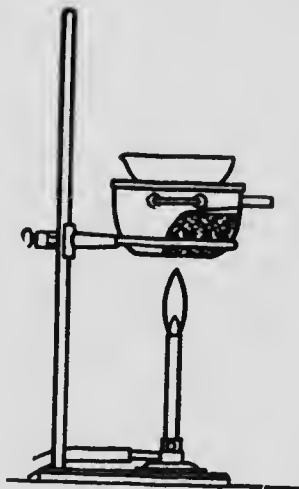

FIG. 13.
(8) **Water Bath.** Concentrated liquids are frequently evaporated in a vessel placed over a water bath as shown in Fig. 13. The lower vessel contains water, so that the temperature of the evaporating dish never rises above  $100^{\circ}$  C.